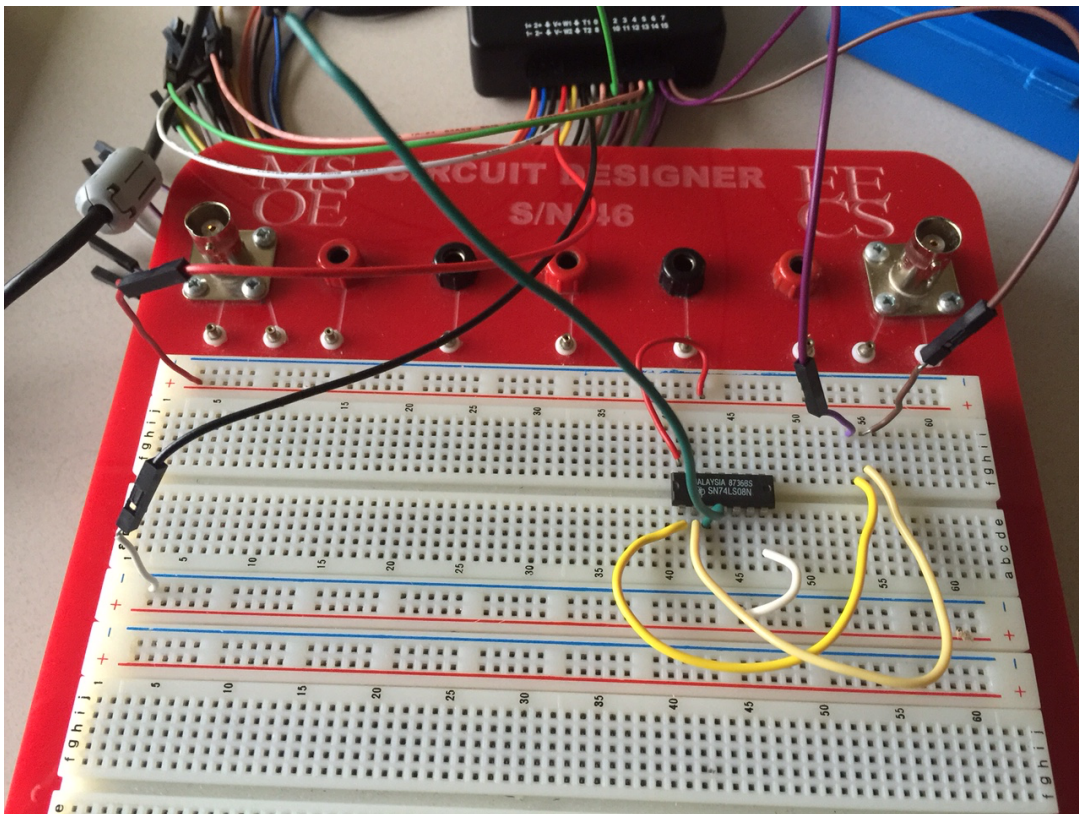

Figure 6: A 7408 AND IC Ready for Testing
6. **Build** the circuit shown in Figure 6.